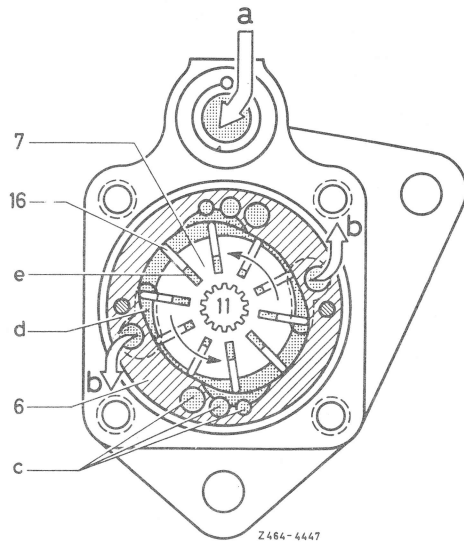

Fig. 7
7 Insert pump vanes (16) into grooves of rotor (7) in such a manner that the rounded-off ends are facing outwards in direction of cam ring (6) (Fig. 7).
8 Place pressure plate (3) on cam ring (6) and position fitted pins, while observing the pertinent markings (Fig. 7 and 8).
Note: The outlet holes for the pressure oil should be above the pressure oil holes of the cam ring (Fig. 7).